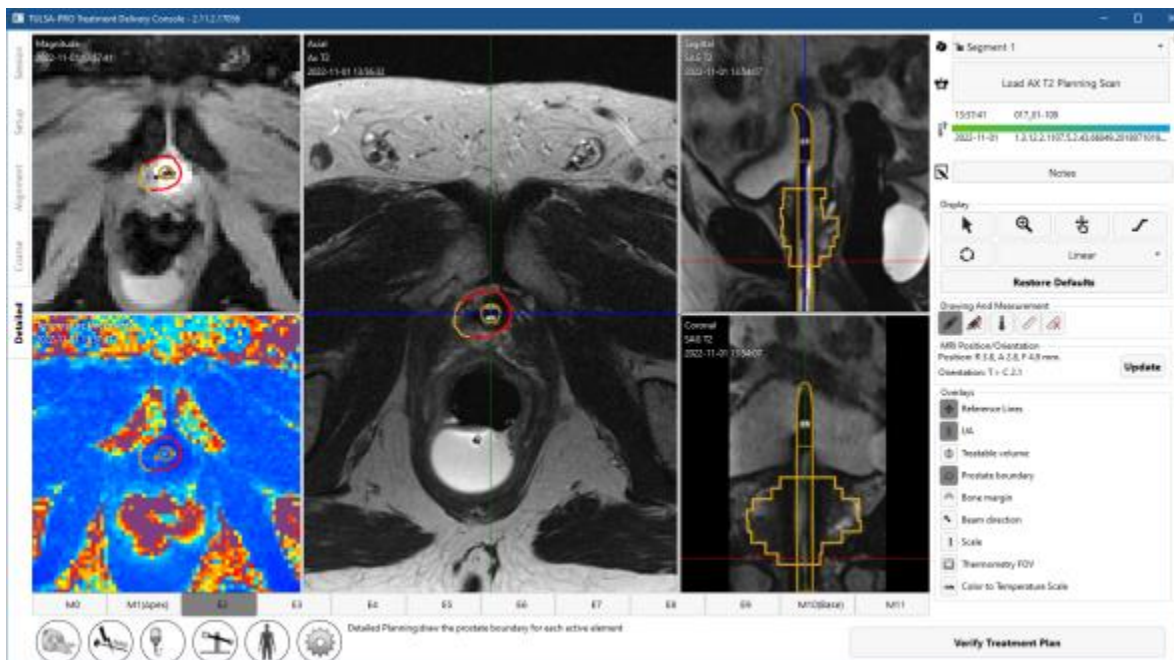

Figure 38: Detailed Planning after drawing boundaries
2. To draw the prostate boundary, select the drawing tool and outline the tissue to be ablated on each slice based on the corresponding AX T2 and THERM magnitude images (*Figure 38*). You can select individual slices by clicking on the numbered tab at the bottom of the screen or by pressing the left and right arrow keys on the keyboard. Use the sagittal and coronal views of the SAG T2 images to verify the intended ablation zone in three dimensions.